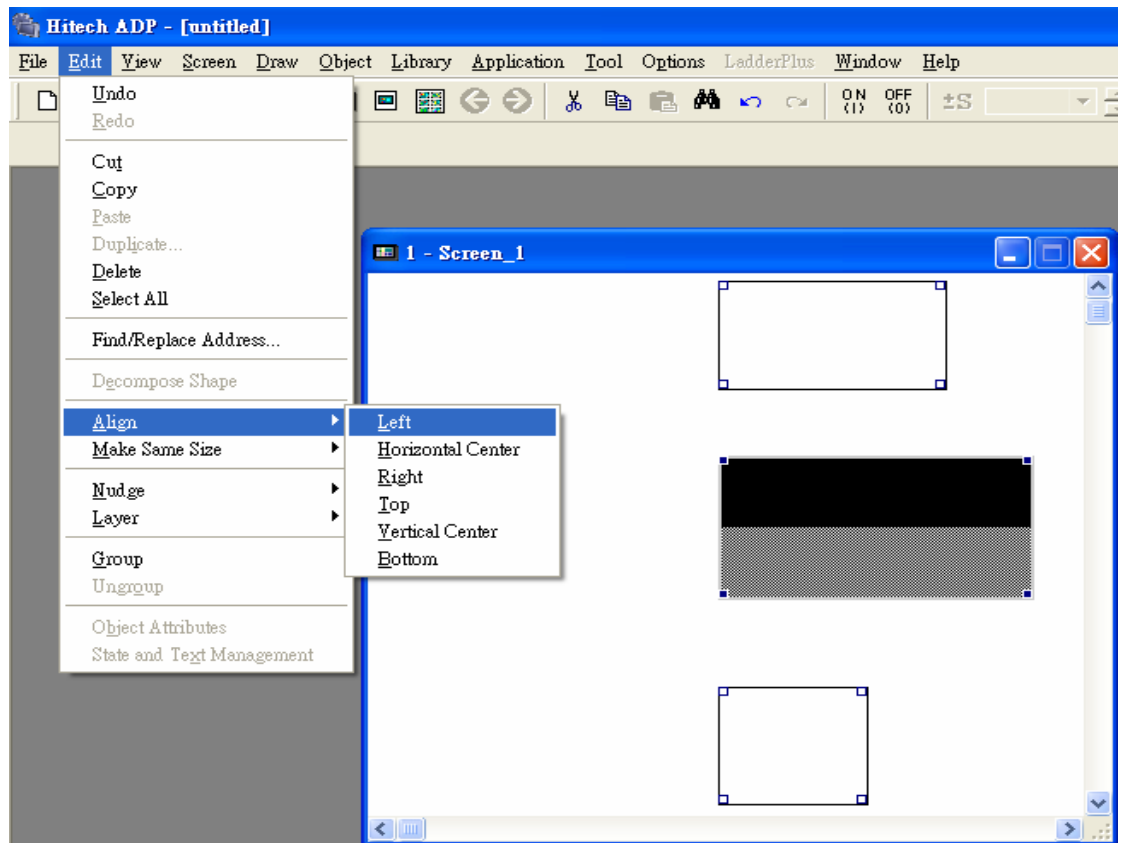

Figure 30. Step 3
3. Select the command in [Align] or [Make Same Size] to make the other objects align or make same size with the 'master' object. See Figure 30.